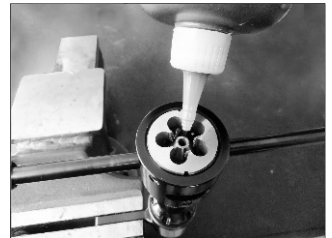

Fig.2-7
7. Place the threading tool onto the tubing through the guide bushing. Lubricate the cutting edge with cutting oil. (Fig. 2-7)